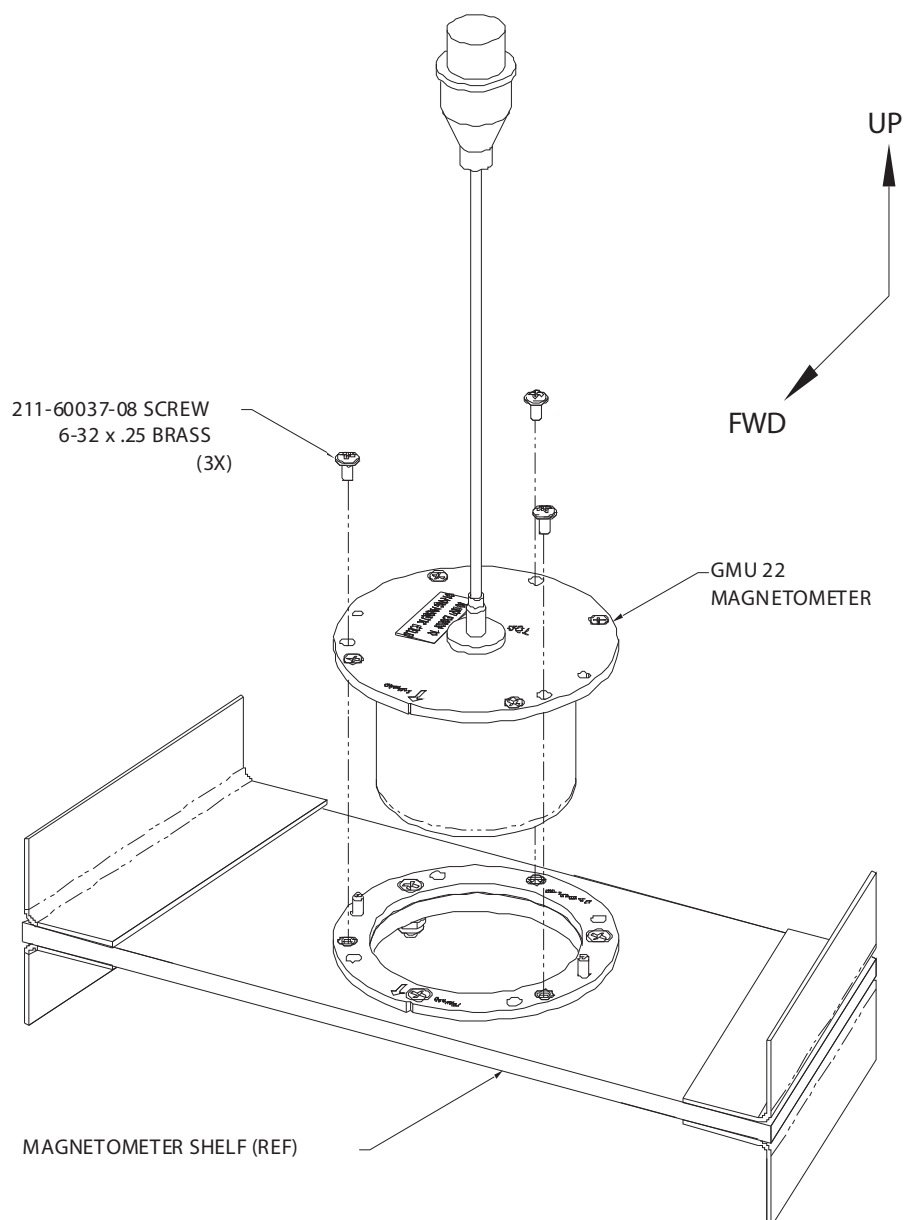

Figure A-28 Installation Of GMU 22 Magnetometer
8. Install the GMU 22 Magnetometer in the installation rack with the hardware provided as shown in Figure A-28.